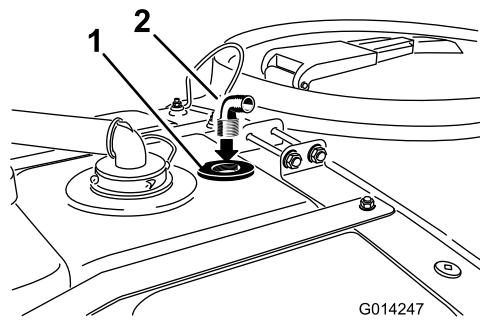

Figure 16
4. Install the fitting into the threaded opening of the rinse nozzle bulkhead (Figure 16).